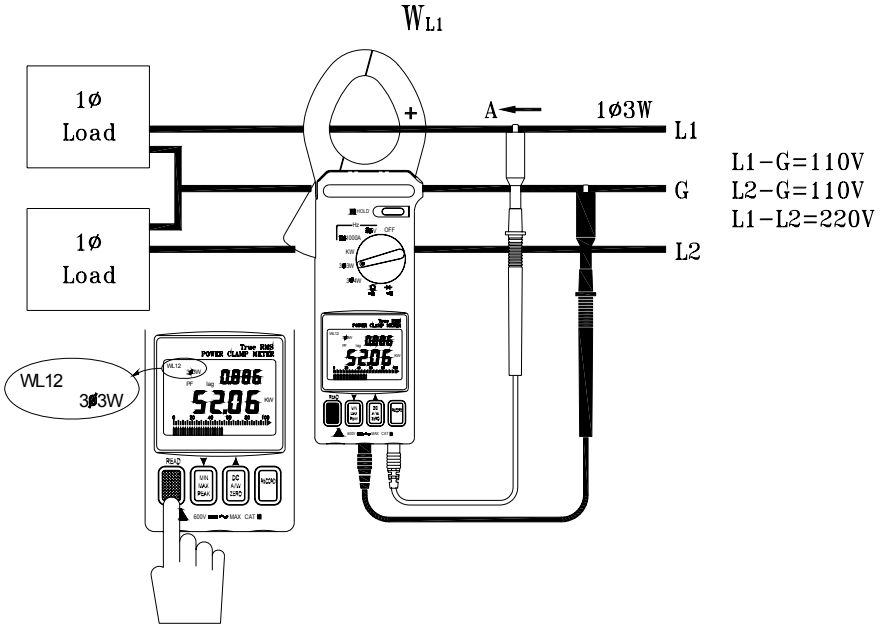

Figure 11
**A. Measure  $W_{RS(L1G)}$  (refer to figure 11).**